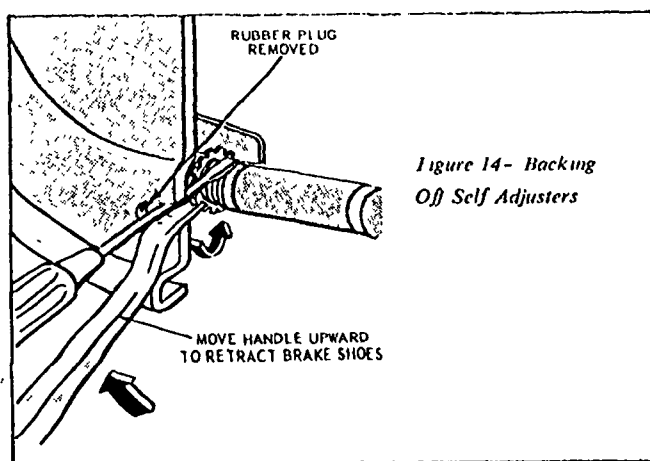

Figure 14- Backing Off Self Adjusters
1. Remove the wheel from the drum, then remove the drum from the brake with a gentle rocking motion. If the drum will not come off, knock the rubber plug out of the brake carrier plate with a punch. Insert a narrow screwdriver through the slot and disengage the adjusting lever away from the screw, back off the adjusting screw with a brake adjusting tool (Fig. 14). *Be extremely careful not to burr, chip or damage the notches in the adjusting screw; otherwise the self-adjusting mechanism may not function properly.*